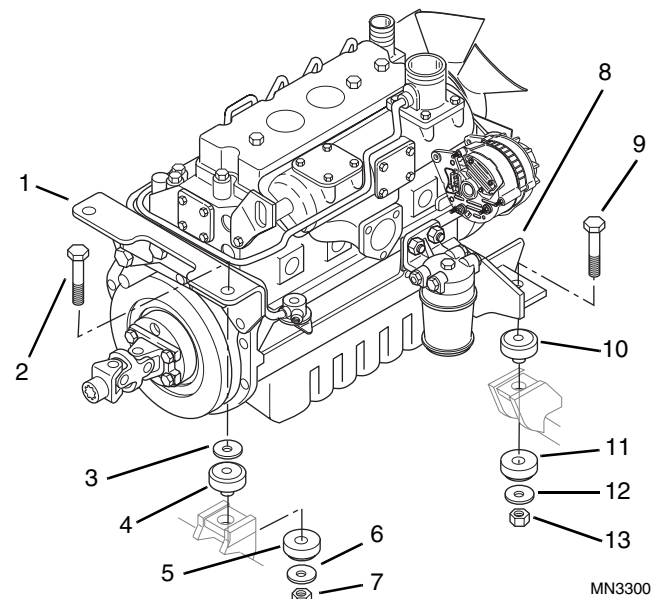

Figure 10-84 Engine Mounting
6. Align the front engine mount (Fig. 10-84, 1) with the frame mounting brackets, and loose install capscrew (2), flat washer (3), top isolator (4), bottom isolator (5), rebound washer (6), and new hex elastic locknut (7), to the right and left side of the front engine mount (1).
7. Align the rear engine mount (Fig. 10-84, 8) with the frame mounting brackets, and loose install capscrew (9), top isolator (10), bottom isolator (11), rebound washer (12), and new hex elastic locknut (13), to the rear engine mount (7).
9. Tighten all four mounting capscrews (Fig. 10-84, 2 & 9) and hex locknuts (7 & 13) securely.